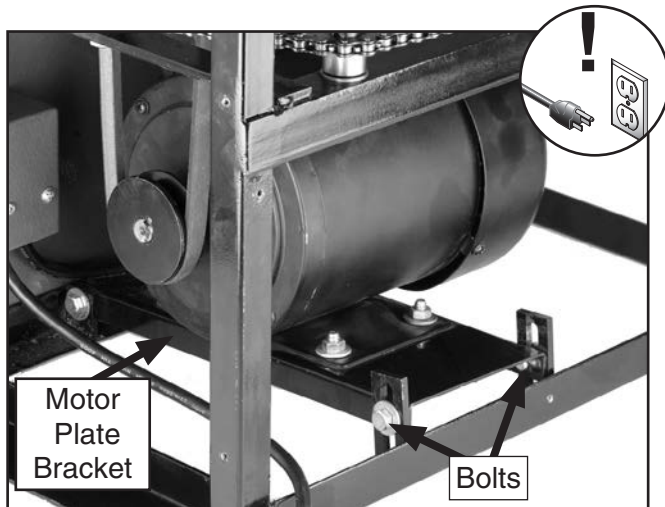

Figure 26. V-belt tension controls.
3. Loosen the motor mount bolts and raise or lower the motor bracket, as shown in **Figure 26**, to loosen or tighten the V-belt.